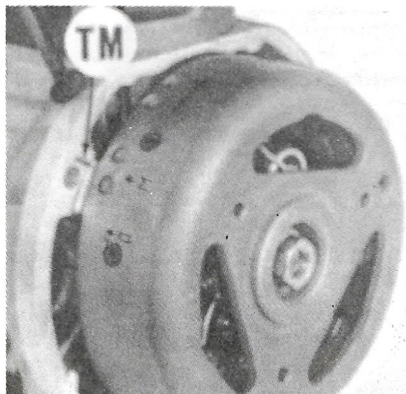
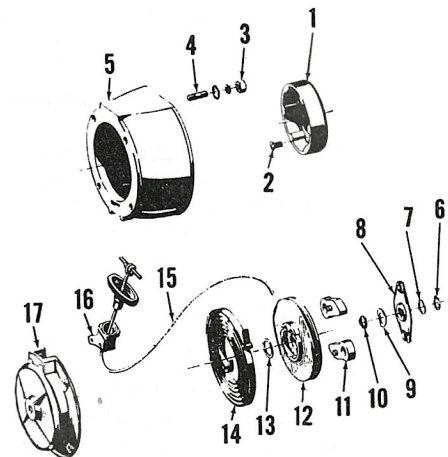

Fig. SA1-1—Breaker points should just open as "M" mark on flywheel aligns with timing mark (TM) on crankcase.
Fig. SA1-7—Exploded view of recoil starter assembly used.
Breaker point gap should be 0.35-0.45 MM (0.014-0.018 inch) at maximum opening. Breaker points are adjusted through holes in flywheel after removal of recoil starter assembly and starter drum (1—Fig. SA1-7). Note: Screws securing starter drum to flywheel are coated with a locking compound. Use caution to prevent damage during removal. Ignition should occur, breaker points just open, when piston is 1.5-2.0 MM (0.059-0.079 inch) BTDC. Engine should be in correct position for ignition when "M" mark on flywheel is aligned with timing mark (TM—Fig. SA1-1) on crankcase. Piston is in TDC position when "O" mark on flywheel is aligned with mark on crankcase. Timing may be adjusted a small amount by varying breaker point gap within the recommended range of
**CRANKCASE, CRANKSHAFT AND CONNECTING ROD.** Connecting rod small end bushing may be renewed without separating crankcase sections. Use suitable tools to prevent rod from being bent as bushing (10) is pressed in. Make certain that oil hole in bushing is aligned with oil hole in rod. Bushing must be reamed so that piston pin is a snug thumb press fit with a light coating of oil.
Crankcase sections must be separated to remove the crankshaft assembly. Dismount engine from frame and remove recoil starter assembly (6 through 16—Fig. SA1-7). NOTE: Countersunk screws used to secure drum (1) to flywheel are coated with a locking compound. Use care to prevent damage on disassembly. Remove magneto flywheel, mark stator for correct reinstallation and remove stator. Locking compound is used on stator plate screws. Remove cylinder and piston as previously described, then remove screws holding crankcase sections together. Heating crankcase assembly on a hot plate or in an oven to approximately 212-257 degrees F. will ease disassembly.
**RECOIL STARTER.** Refer to Fig. SA1-7 for an exploded view of recoil starter assembly used. Rope (15) may be renewed without completely disassembling unit if rope is not broken. Remove starter assembly from engine and pull rope completely out of housing so that knotted end of rope is visible in housing. Secure pulley so that it cannot rewind, reach inside starter with a wire hook and remove rope from starter. Obtain a length of rope 47 1/4 inches long, install on pulley and reinstall starter.